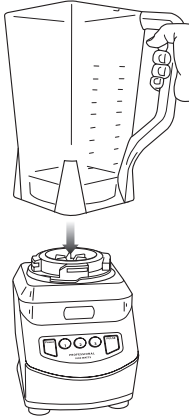

Fig. 1
- 3 Lower the pitcher onto the motor base. (Fig. 1)